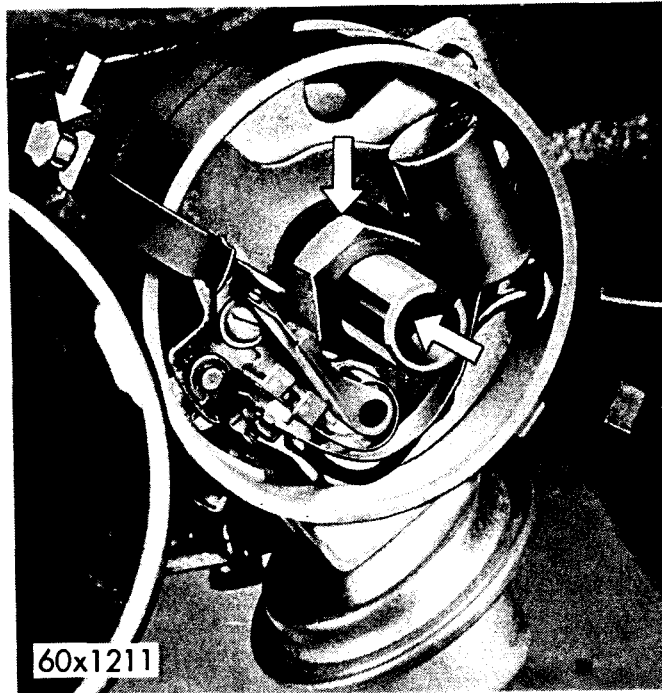

Figure 64 — Distributor Lubrication Points (Typical)
The distributor (Fig. 64) should be lubricated at three points: (1) Oil cup on the side of the distributor; and (2) Wick under the rotor in the center of the cam. Apply a few drops of SAE 10W Engine Oil to the oil cup after each 25 hours of operation. After 250 hours of operation, remove the distributor cap and rotor and apply two or three drops of SAE 10W Engine Oil to the cam wick; (3) Wipe old grease from surface of the breaker cam. Apply a tight film of new distributor cam grease MoPar Number 1473595.